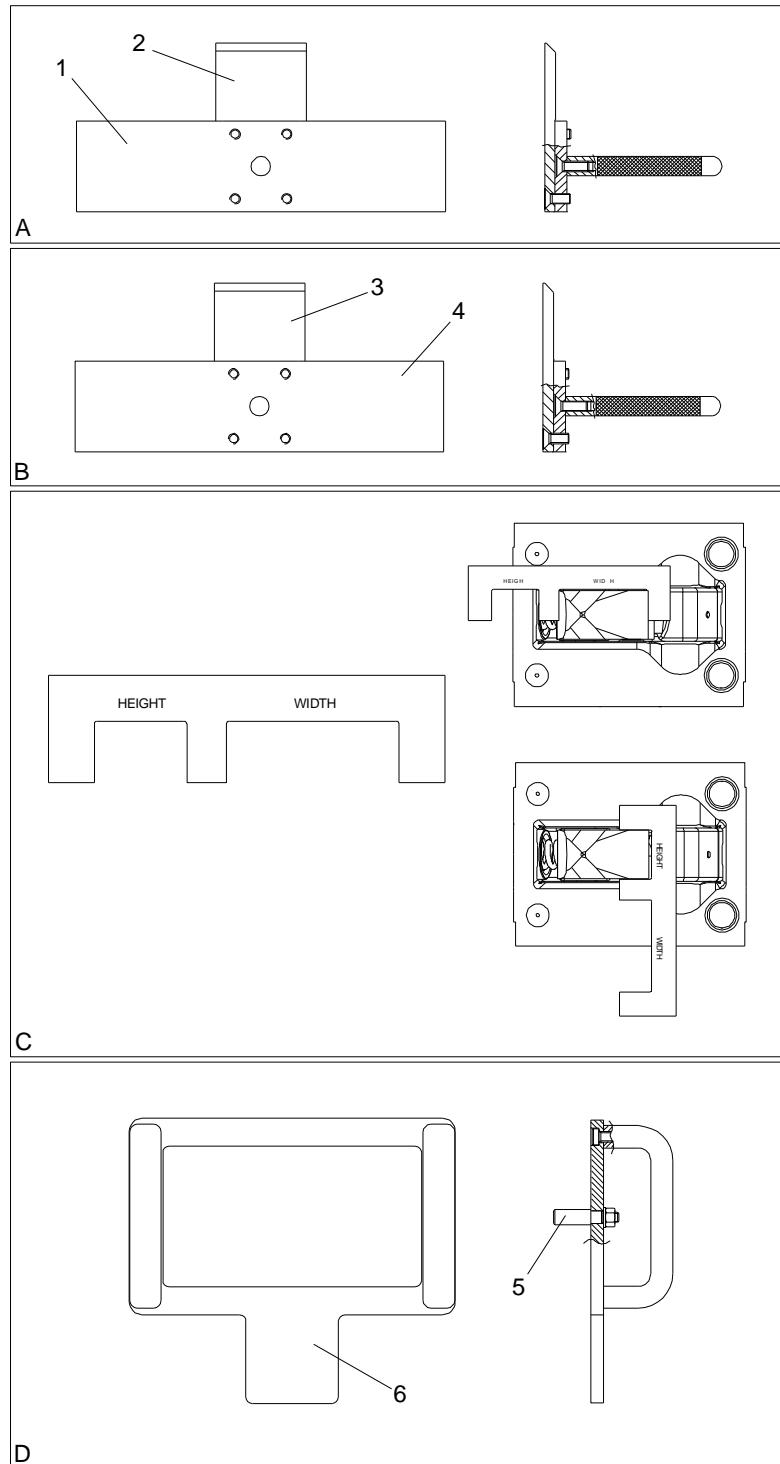

Figure 5-11: Automatic Coupler, Measure of Wear
1. Use the hook to face "GO" gauge (A) to check the distance between the coupler buff face and the hook pull face. If OK the surface (2) must fit behind the hook pulling face and surface (1) rest flat against the coupler buffering face. Failure of the gauge to be flat against the coupler buffering face indicates bent hook or damage to coupler face. See Figure 5-11.
2. Use the hook to face "NO GO" gauge (B) to check the distance between the coupler buff face and the hook pull face. The surface (3) must not fit behind the hook and surface (4) rest flat on the coupler face. If gauge does, that indicates the hook or face is worn and should be replaced.
3. Use hook gauge (C) to check if hook height and width is within tolerance. If the gauge can pass over the surfaces, replacement of the hook is required.
4. Use the throat gauge (D) to check width and height of the coupler head throat opening. If width is OK the pins (5) should not enter the throat. If height is OK the surface (6) should not enter the throat. If not OK in either case this indicates distortion or wear and the coupler should be replaced.